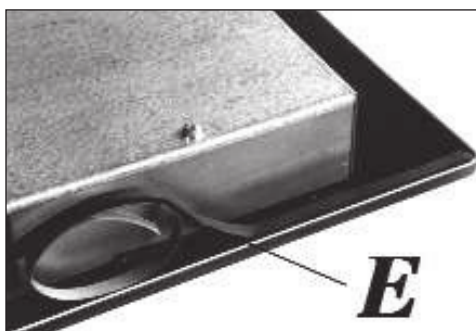

Fig. 1
- Overturn the cooktop and correctly position seal "E" (fig. 1) under the edge of the cooktop itself, so that the outer side of the seal perfectly matches the outer edge of the cooktop. The ends of the strips must fit together without overlapping.